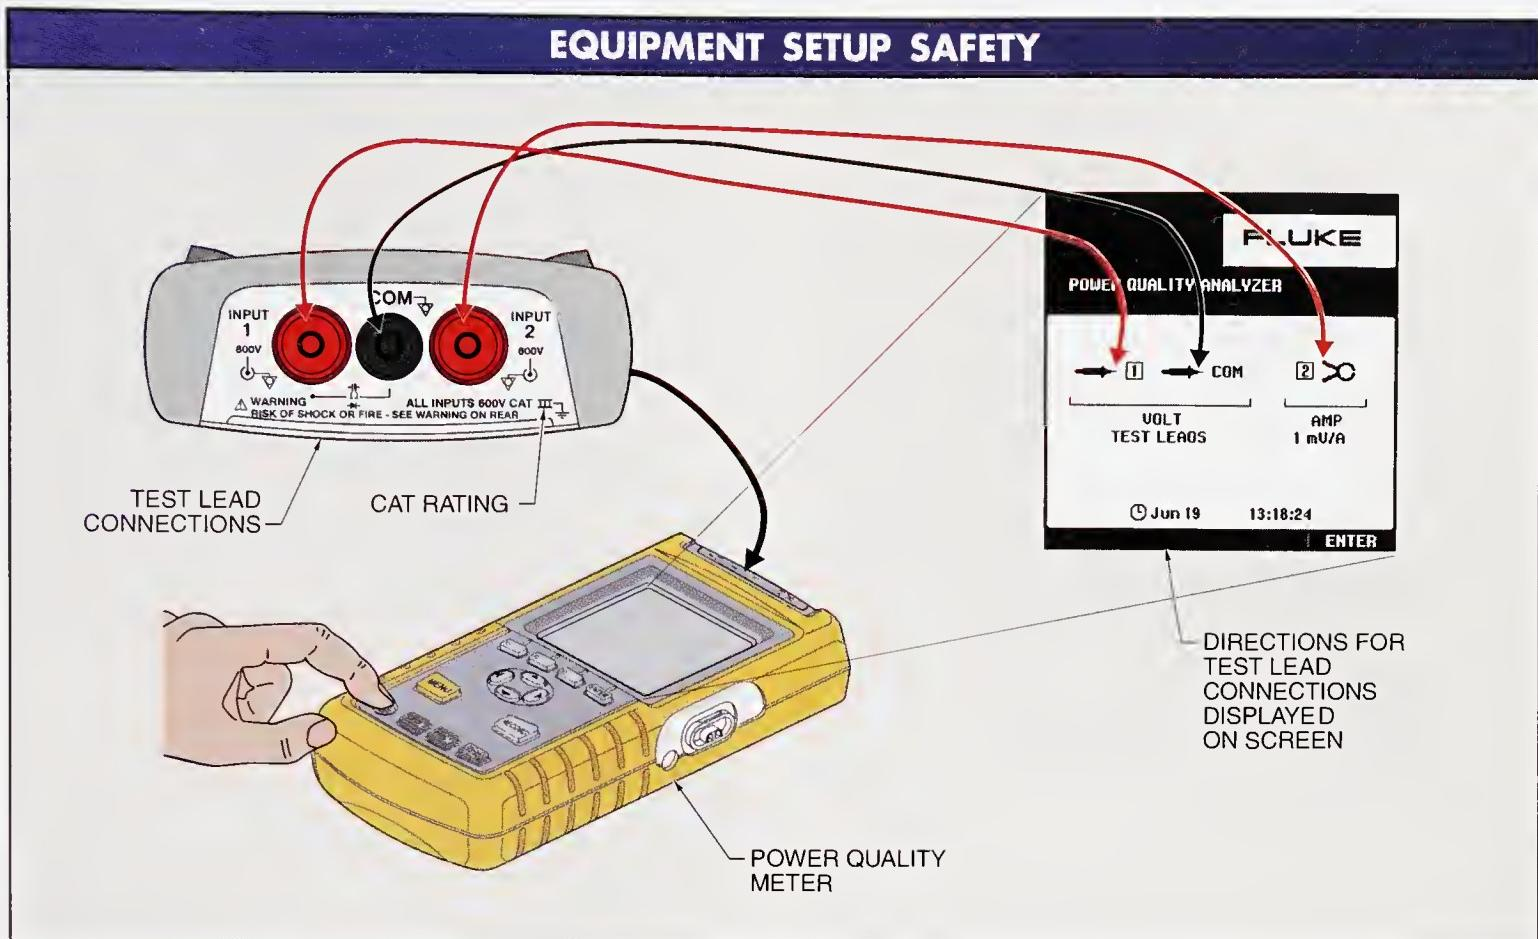

Figure 1-21. The displays of some test instruments prompt the user for correct connection of test leads and probes.
- Ensure that the test leads of the test instrument or meter are connected properly. Test leads that are not connected to the correct jacks can be dangerous. For example, attempting to measure voltage while the test leads are in the amperage jack produces a short circuit. For additional safety, use a meter that is self-protected with a high-energy fuse. Follow the operating instructions in the user's manual or the directions on the graphic display for proper test lead connections and operating information. See **Figure 1-21**.